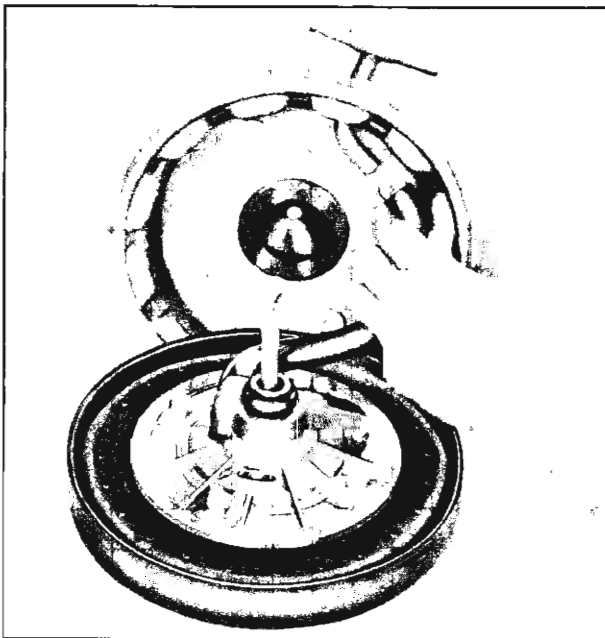
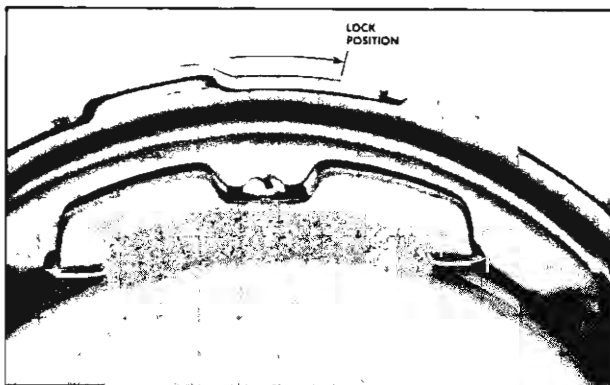

Fig. 51—Power Piston and Rear Shell Assembly
Fig. 52—Front and Rear Shell Locking Procedure
26. Place the exhaust hose onto the exhaust tube of the rear shell assembly (fig. 51). Force the push rod through the boot (1, fig. 41) on the rear shell (2). The air cleaner on the rear shell should be slightly left of the master cylinder filler cap as the shell is positioned on the diaphragm. Press shell down and align the locking lugs (fig. 52).